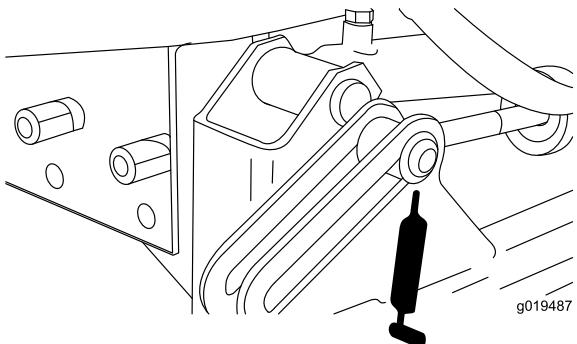
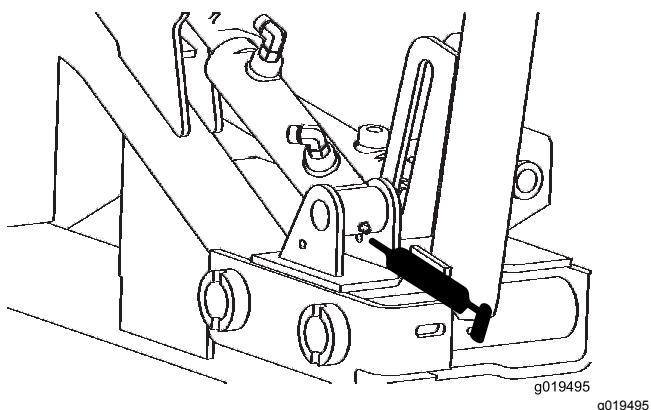

Figure 37
Figure 38
- Front lift cylinders (3) (Figure 37 and Figure 38)